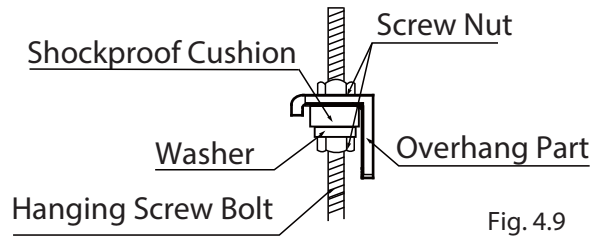

Fig. 4.9
9. Mount the indoor unit onto the hanging screw bolts with a block. Position the indoor unit flatly, using a level indicator to prevent leaks. (See Fig. 4.9).